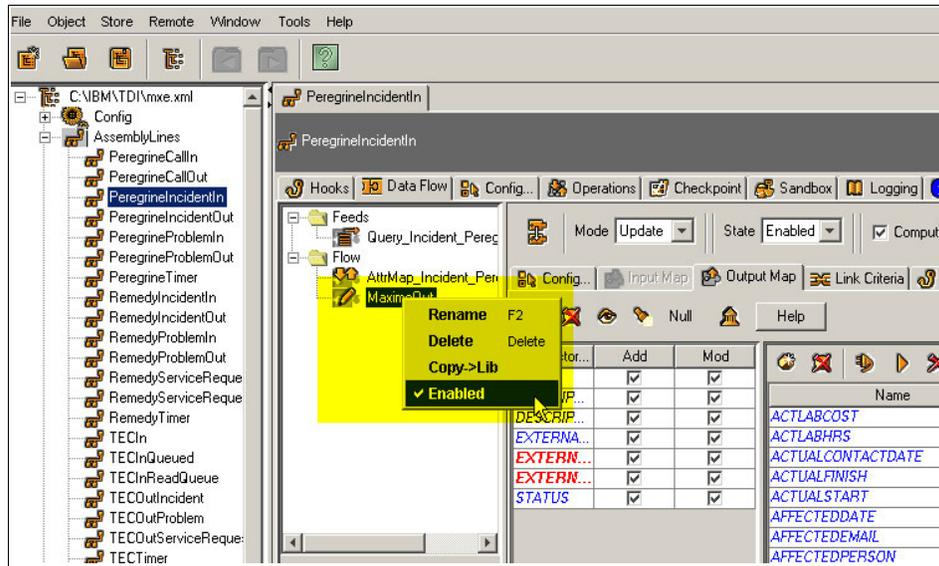

Figure 4-4 AssemblyLine configuration: Disabling the SRM ticket generation
- c. Right-click the *MaximoOut connector* in the Flow section, and choose the *Enable* option to toggle it to disabled as shown Figure 4-4 on page 143.